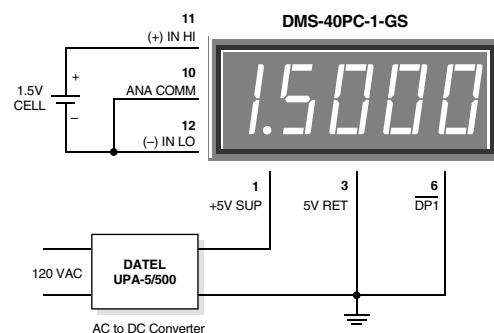

Figure 5. Floating Input Measurements
**4. Floating Signal Source Measurements:** A floating input is a signal that, before it is applied to the DMS-40PC's inputs, has no galvanic connection (direct current path) to the meter or the meter's power supply. The circuit shown in Figure 5 illustrates the necessary connections for measuring floating inputs. The 1.5V battery represents a true floating input signal since it initially has no connection whatsoever in common with the meter. Real-world floating inputs typically originate from power supplies which are transformer isolated from the DMS-40PC's +5V supply.
As the timing diagram in Figure 5 indicates, 100Hz is the optimum display scan rate when the BCD outputs are used to drive external LED displays. Faster scan rates, while permissible, are not necessary. Slower scanning, however, may result in noticeable "flickering" of the display. Common anode LED's, combined with a 74LS247 BCD to seven-segment decoder, is the simplest way of implementing an